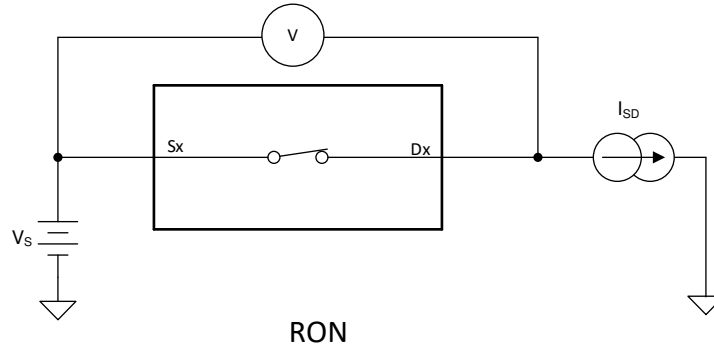

图 7-1. On-Resistance
The on-resistance of a device is the ohmic resistance between the source (Sx) and drain (D) pins of the device. The on-resistance varies with input voltage and supply voltage. The symbol R_{ON} is used to denote on-resistance. 图 7-1 shows the measurement setup used to measure R_{ON} . Voltage (V) and current (I_{SD}) are measured using the following setup, where R_{ON} is computed as $R_{ON} = V / I_{SD}$: